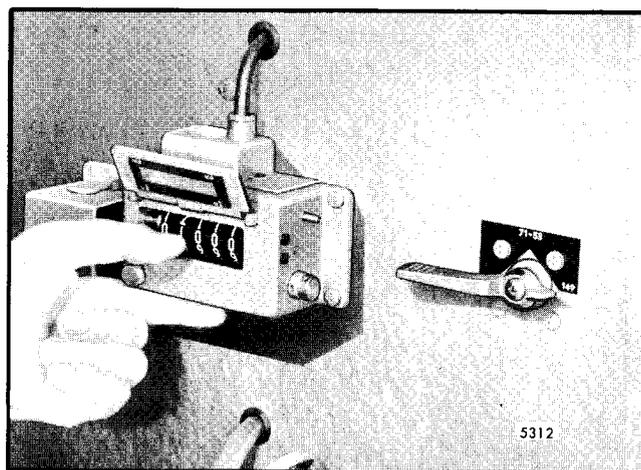

Fig. 16 - Setting Calibrator Stroke Counter
**NOTE:** Make sure the counter (Fig. 16) on the calibrator is preset at 1000 strokes. If for any reason this setting has been altered, reset the counter to 1000 strokes by twisting the cover release button to the left and hold the reset